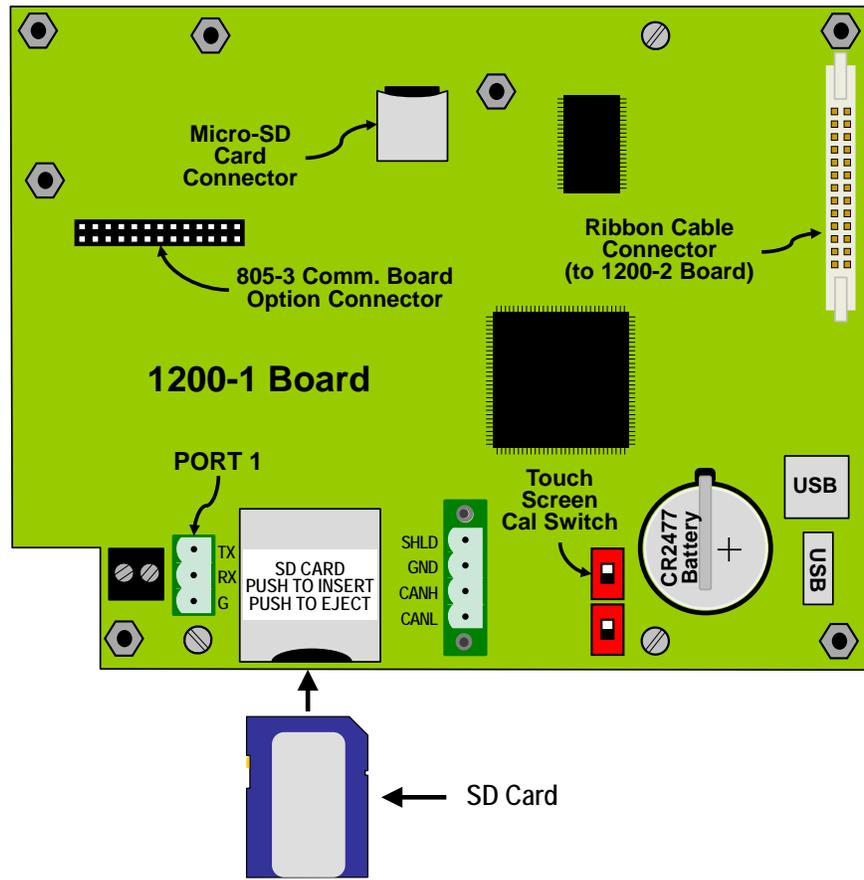

Figure 48: SD Card Location
A “secure digital” (SD) flash card is used to store the backup data. This type of flash card is commonly available from stores such as Radio Shack, Best Buy, Wal-Mart, Target, etc. Since a single backup will take up less than 64KB of space, even the smallest capacity SD cards will have more than enough space for backups. The location of the SD card slot is on the circuit board attached to door of the unit as shown in Figure 48.